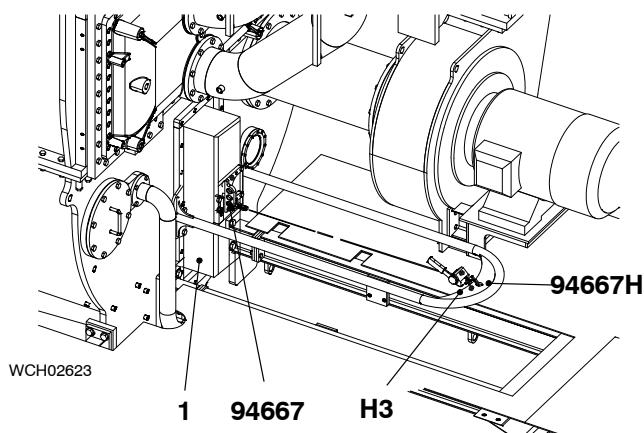

Fig. 7
- 1) Attach the tool (94667, Fig. 7) to the front of the water separator.